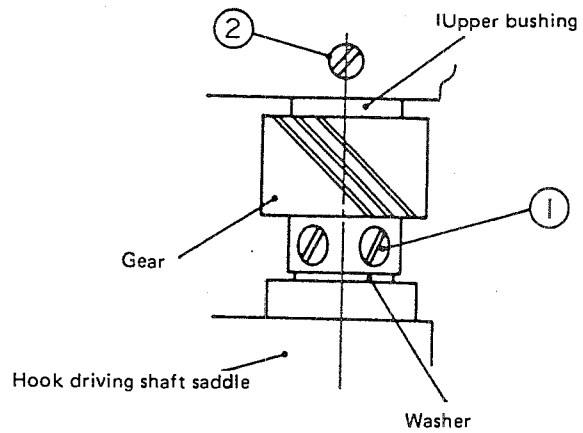

Fig. 10
<ol style="list-style-type: none"> 1. Set the stitch length dial to "6". 2. Tighten screw No. 1 of the large gear to the flat face of the hook driving shaft for preliminary installation. 3. Raise the needle bar 2.4 ± 0.2 mm ($0.094'' \pm 0.008''$) from its lowest position to make the hook point meet the center of the needle. 4. With the above conditions maintained, tighten the setscrew (with a V-shaped end) into the V groove of the hook driving shaft. Also, tighten the other two screws. (See Fig. 10) 5. Loosen setscrews ① and ②, and move the hook driving shaft saddle to the right or left to adjust so a clearance of 0 to 0.05 mm ($0 \sim 0.002''$) is provided between the hook point and the needle. (See Fig. 7). (At this time, be sure that the needle touches the needle guard on the hook by 0 to 0.15 mm ($0 \sim 0.006''$) when the hook point meets the center of the needle.) 6. Position screw No. 1 of the large gear on the flat face of the hook driving shaft. Move the large gear in the axial direction to make fine adjustment so the hook point meets the center of the needle. (See Fig. 7). <div data-bbox="375 1025 746 1617" data-label="Image"> </div> <p data-bbox="563 1671 627 1697">Fig. 7</p>	<ul style="list-style-type: none"> ○ If these adjustments are made inaccurately, irregular stitching, stitch skipping or thread breaking may occur.